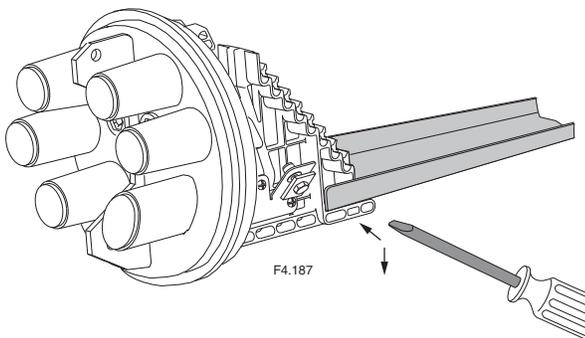

Figure 1
2. Use a screwdriver to pry up the tab attaching the metal “backbone” to the FOSC 400 D5 tray mounting bracket. (Fig. 1) Remove the backbone from the bracket and discard it.